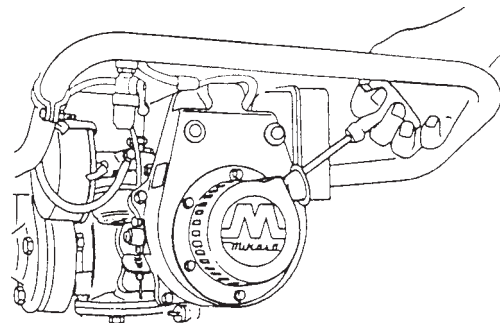

Figure 8. Recoil Starter
4. Grip the recoil starter (Figure 8) handle and pull it until you feel a slight resistance. Then pull sharply and quickly. Return the recoil starter handle to the starter position before releasing.